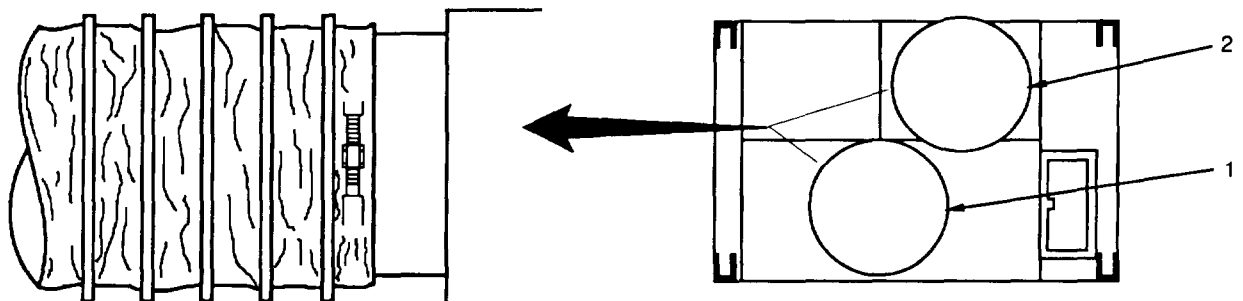

Figure 4-3. Flexible Duct Attachment to Duct Adapter Flange
Observe airflow directional arrow on duct. The 7-foot duct attaches to the air return (1) and the 9-foot duct attaches to the supply (2) as shown in figure 4-3.
(3) Slide the end of the duct onto the duct adapter. When properly in place, the hem containing the strap is passed over the raised rim of the port flange (figure 4-3). Make sure the strap ends are positioned to allow adequate space for working with tools.